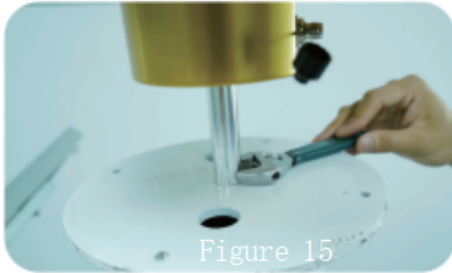
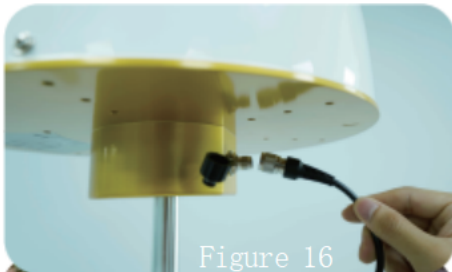

Figure 15
Figure 16
15. Install connecting box as shown in Figure 15, refer to enclosure assembly drawing (Page P02), and fix junction box A and B using M4 screws.
15. Fix antenna to pole As shown in Figure 15, align adapter rod with pole threaded hole, install antenna clockwise onto pole and tighten with wrench.
15. Fix antenna to pole As shown in Figure 15, align adapter rod with pole threaded hole, install antenna clockwise onto pole and tighten with wrench.16. Connect TNC cable As shown in Figure 16, insert male